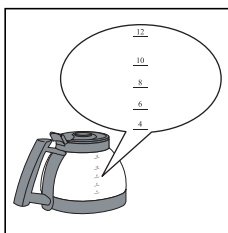

fig. 4
- Fill the tank with fresh, clean water up to the level corresponding to the number of cups of coffee required. Place the tank back in the coffee maker pressing it lightly into place. The tank may also be filled without being removed, using the coffee jug marked with the level indicators (fig. 4).